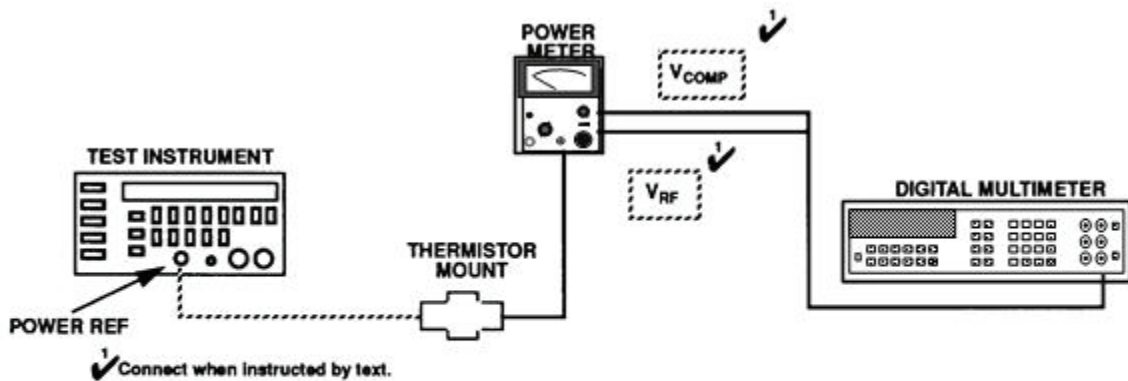

Figure 4. Power reference level - equipment setup.
- (1) Set power meter power pushbutton to **OFF** position.
- (2) Disconnect thermistor mount from power meter interconnect cable.
- (3) Connect multimeter (resistance mode) between vrf terminal on power meter (rear panel) and pin 1 of thermistor mount end of power meter interconnect cable.
- (4) Round off multimeter indication to two decimal places and record this value as power meter internal bridge resistance R (value will be approximately 200 $\Omega$ ).
- (5) Connect thermistor mount to power meter interconnect cable.
- (6) Connect equipment as shown in figure 4.
- (9) Set power meter **RANGE** switch to **COURSE ZERO** and adjust front panel **COURSE ZERO** control for a zero meter indication.
- (10) Fine zero power meter on most sensitive range then set power meter **RANGE** switch to **1 mW**.
- (11) Ensure multimeter input terminals are isolated from chassis ground for (12) below.
- (12) Adjust multimeter to measure microvolts dc.
- (13) Connect multimeter positive lead to power meter  $V_{comp}$  (fig. 4) and connect multimeter negative lead to power meter  $V_{RF}$  (fig. 4).
- (14) If multimeter indication is  $400 \mu\text{V}$  or less, record multimeter indication and proceed to (16) below; if not, proceed to (15) below.
- (15) Hold power meter **FINE ZERO CONTROL** and adjust **COURSE ZERO** control for a multimeter indication  $200 \mu\text{V}$  or less. Record multimeter indication.
- (16) Round off indications recorded in (14) or (15) above to the nearest microvolts and record this value as  $V_0$ .
(17) Press **POWER REF OSC** switch to on position (LED on). Record ultimeter indication as  $V_1$ .
(18) Disconnect multimeter negative lead from power meter  $V_{RF}$  (fig. 4) and connect multimeter negative lead to power meter chassis ground. Record ultimeter indication as  $V_{COMP}$ .
(19) Calculate the **POWER REF OSC** output level PRF from the below listed formula: